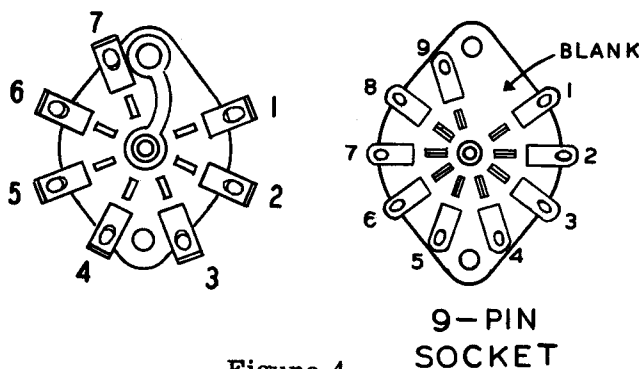

Figure 4
- (✓) Mount a 7-pin tube socket at location A. Use 3-48 screws and nuts, with lockwashers under both nuts. Make sure that the entire socket is mounted on the wiring or bottom side of the chassis. The pins will short to the chassis if the socket is mounted on top. Place the gap between pins 1 and 7 to the right as shown in Figure 1. Refer to Figure 4 and note clockwise pin number sequence.